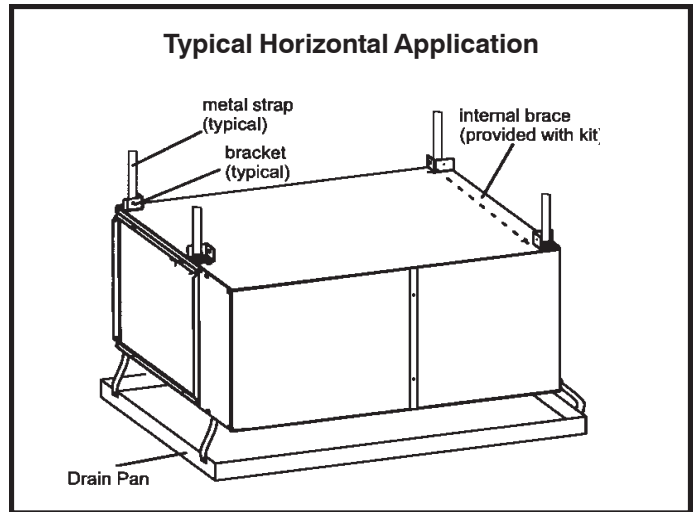
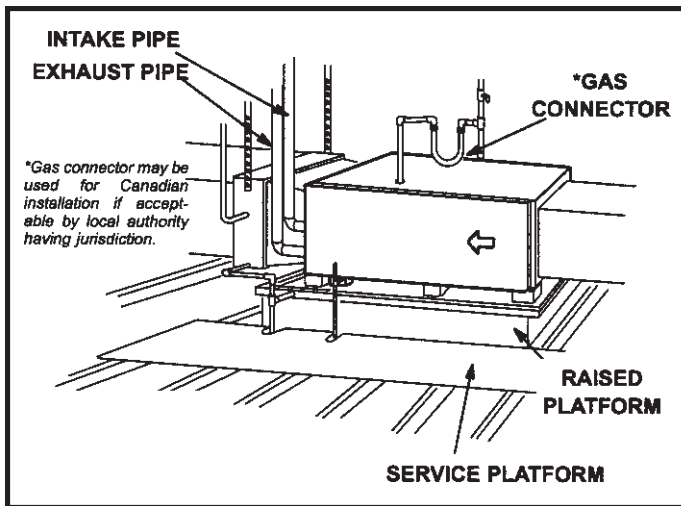

Figure 12
Figure 13
This furnace may be installed in either an attic or a crawl space. Either suspend the furnace from roof rafters or floor joists, as shown in Figure 12, or install the furnace on a platform, as shown in Figure 13. A horizontal suspension kit (51W10) may be ordered from your distributor or use equivalent.
2. Construct a raised wooden frame and cover frame with a plywood sheet. If unit is installed above finished space, fabricate an auxiliary drain pan to be installed under unit. Set unit in drain pan as shown in Figure 13. Leave 8 inches for service clearance below unit for condensate trap.